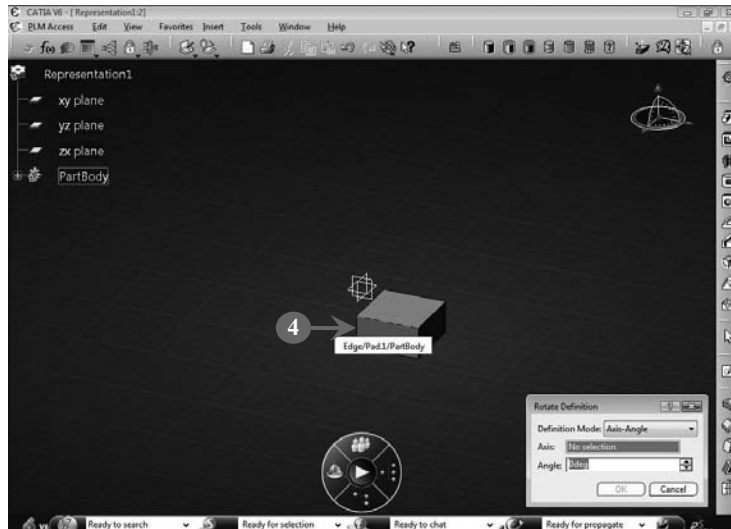

FIGURE 3.92
The **Rotate Definition** dialog box is activated with a focus on the **Angle** and the cursor on the **Axis** options (**Figure 3.92**). The **Axis–Angle** option is selected in the **Definition Mode** drop-down list.
4. Select one of the edges of the solid model as the axis of the rotation of the solid model, as shown in Figure 3.92: